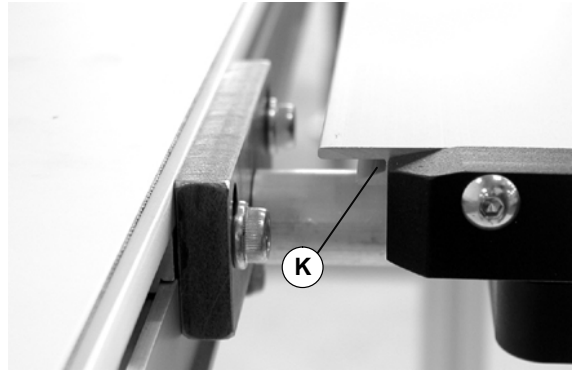

Figure 9
- Orient table such that pocket (K of Figure 9) is toward the conveyor.